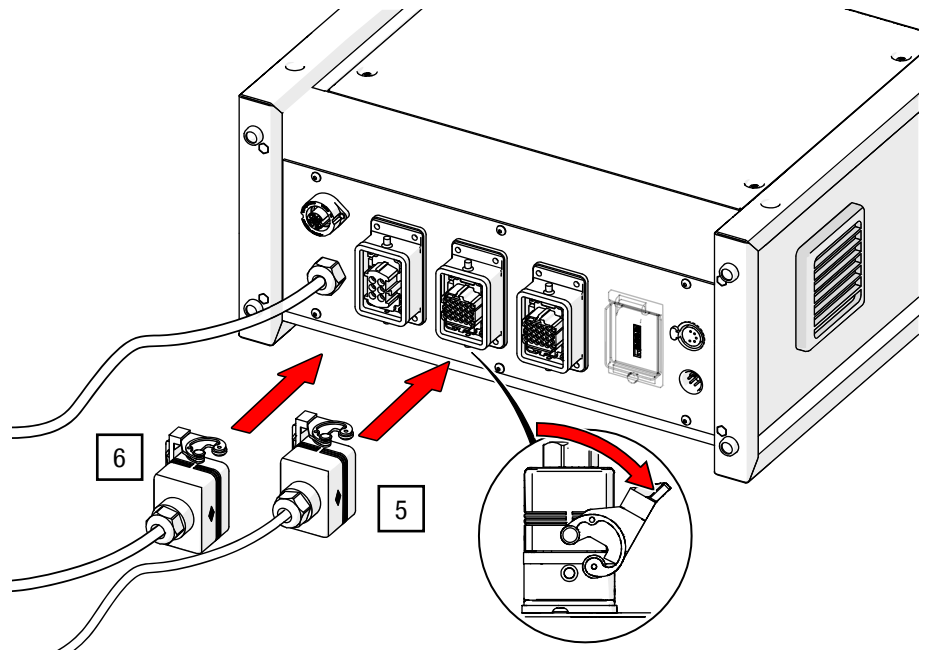

Fig. 24: G-FRAME 54 – Connecting the power and control cable of the roller screen (illustration of the G-FRAME may differ)
5. Plug the 25 m power cable into the socket labelled 1XS1 on the back of the control unit and lock it with the bracket (see Fig. 24).
6. Plug the 25 m control cable into the socket labelled 1XS2 on the back of the control unit and lock it with the bracket (see Fig. 24).